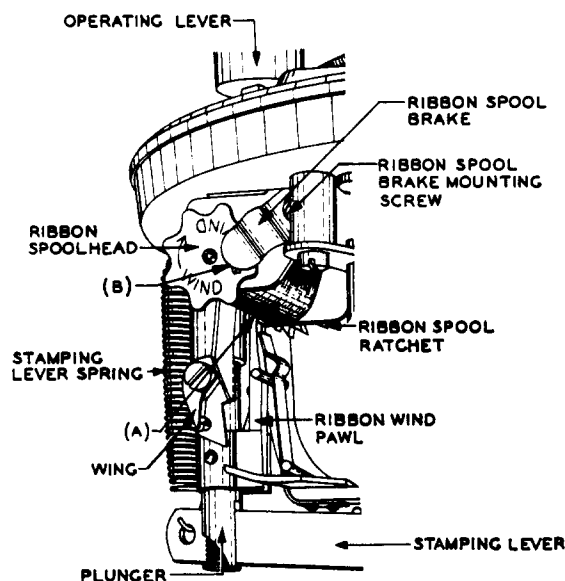

Fig. 12 — Full Spool Ribbon — Reverse Mechanism
***2.18 Movement of the Ribbon Wind Pawl and Ribbon Spool Ratchet:** Fig. 12(A) — The ribbon wind pawl shall move the ribbon spool ratchet one tooth each time the operating lever associated with the pawl is released from the operated position, except when the ribbon reversing mechanism is operated.
Fig. 12(B) — The ribbon spool brake shall be so tensioned against the spoolhead that when the operating lever is operated or released quickly no slack will appear in the ribbon.